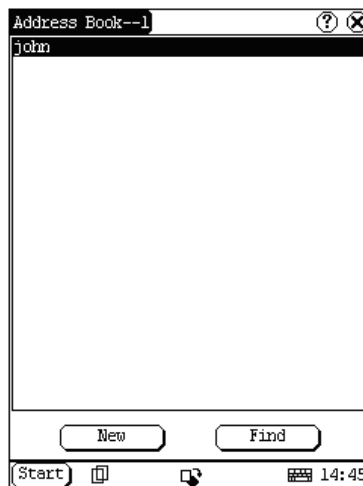

Fig 4-15
- 3) Click [New] button to open the Address New interface. (See Fig 4-15)